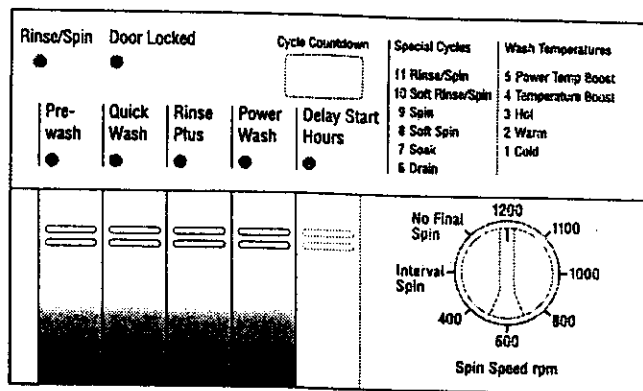

Figure 13.
2. If you desire to have the wash remain wet: set the cycle selector to DRAIN (6) and depress the "START" button. The water will then be pumped from the washer and the door will be able to be opened.
V. Set Additional Functions, see Figure 13, if desired.
The STANDARD WASH CYCLES are suitable for most wash conditions that one may encounter, however, for those special situations there are four "ADDITIONAL FUNCTION" keys located between the "START" and "DELAY START HOURS" buttons on the control panel of the washer, see Figure 13 below.